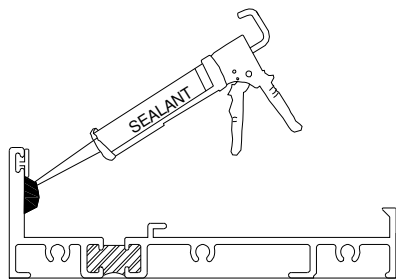

Figure 15:
1. Before glazing, apply a continuous bead of sealant to the inner flange (Figure 15).